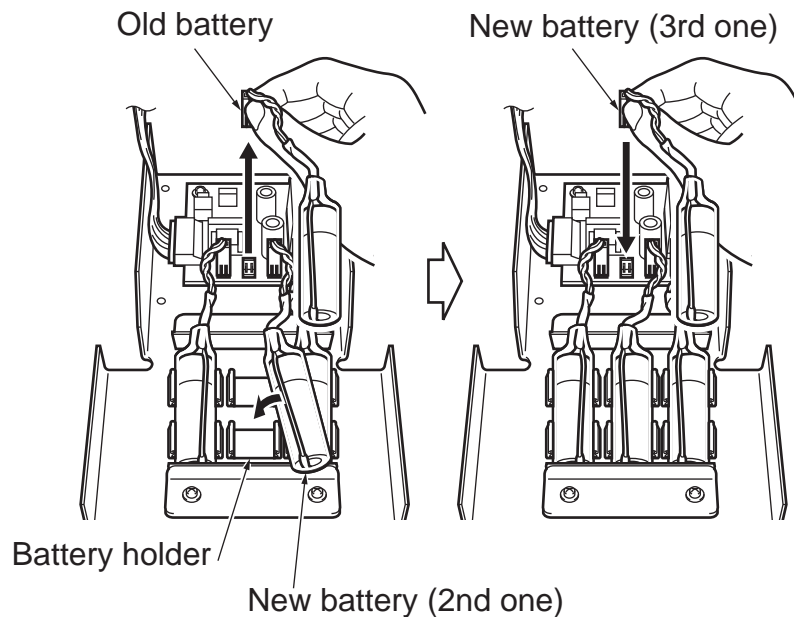

Figure 5-6. Connecting Third New Battery
8. Disconnect the old backup battery that is next to the new battery connected in Step 7, and then connect a new battery (3rd one). See Figure 5-6.